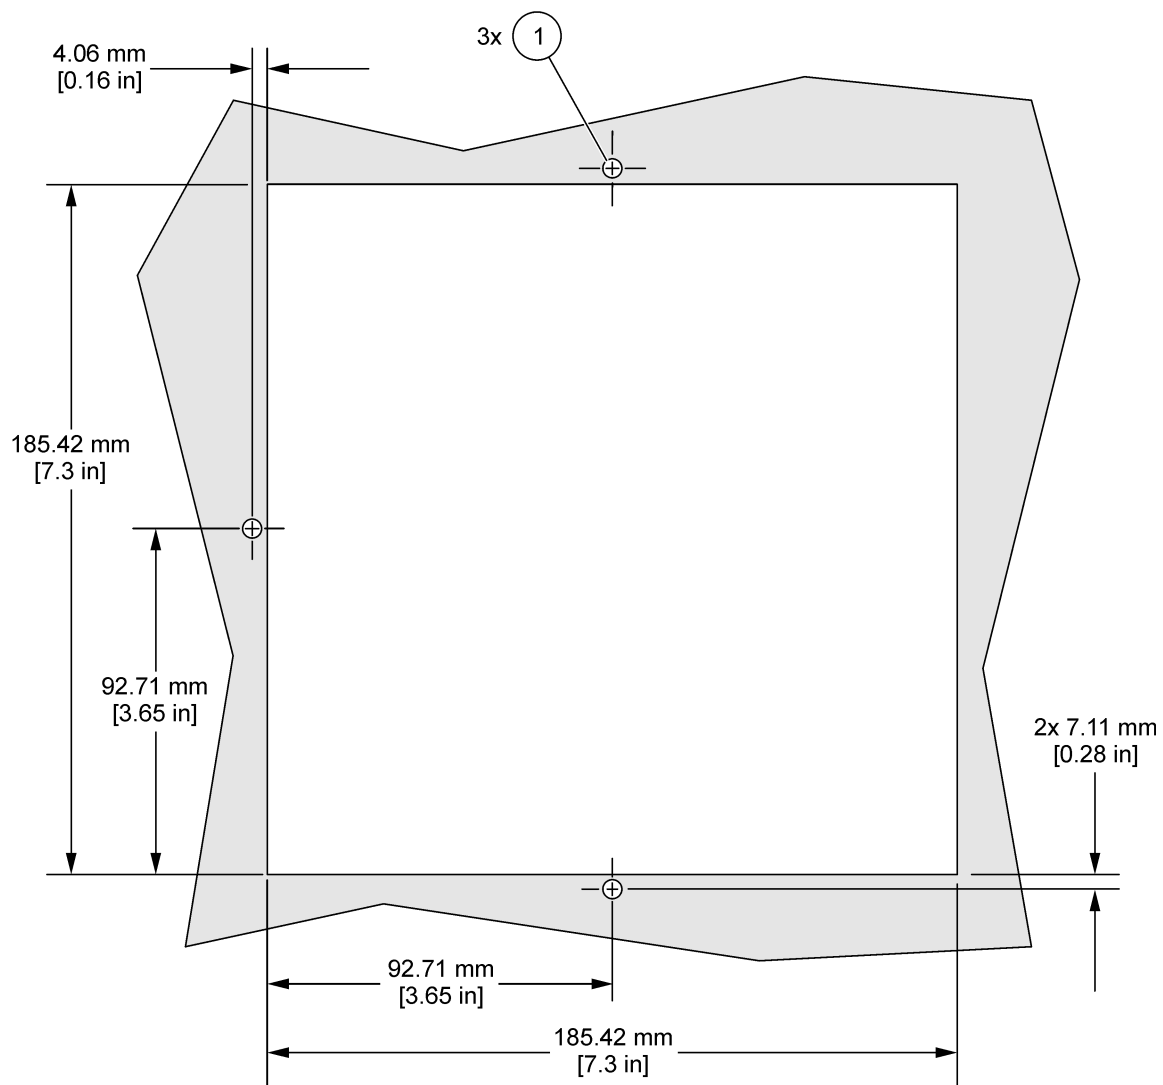

Figure 4 Panel mount dimensions (For reference only, not to scale)
5. Measure the panel hole using the dimension information given in Figure 4 on page 4. Mark the panel for placement of three #10 pan-head screws.